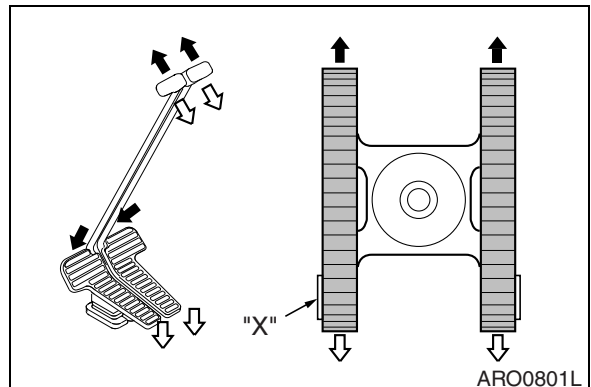

Figure 38
- To travel straight (Figure 38), push both travel control levers/pedals fully forward or backwards. The farther the levers/pedals are pressed, the faster the travel speed.